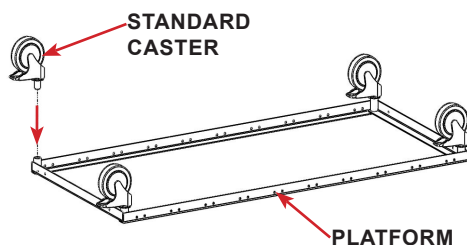

FIGURE 2.11 - Single Cage Platform
**STEP 1:** For single platform assemblies, insert a caster into each of the corner post sockets. See FIGURE 2.11